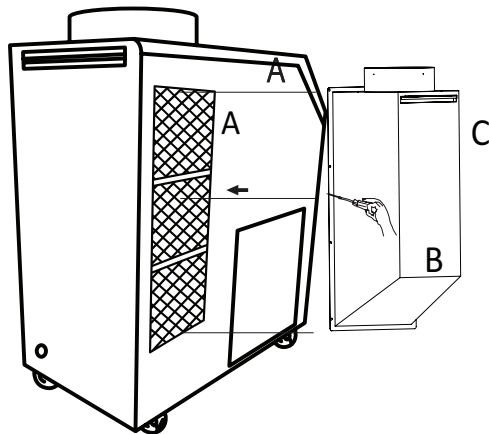

Figure 5
3. Install "B" which contains "C" by using driver with enclosed bolts(6EA) as Figure5.